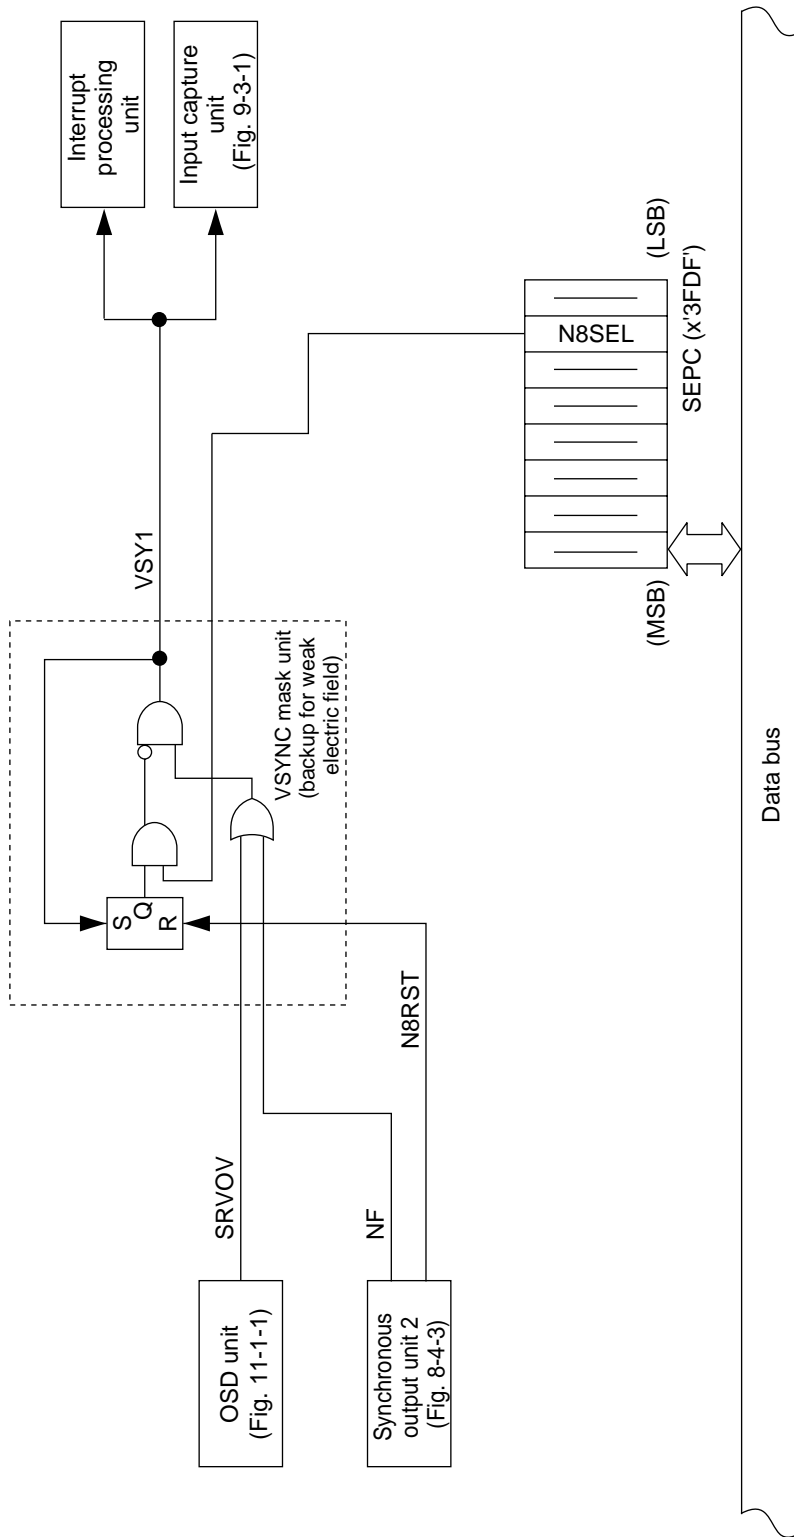

Figure 9-2-8 VSYNC Input Processing Unit
- (1) The VSYNC noise mask (N8) signal masks the actual capture signals (VSY1 signal in Fig. 9-2-8) of the VSYNC Input Capture Register (ICRVSYN: x'2E0C', x'2E0D', x'2E0E', R). When the VSYNC signal or NF signal causes the FRC count value to be captured by the ICRVSYN Register, masking begins and capture operation is disabled. The mask can be removed by setting the N8RST Flag (bp4) of the Synchronous Output Data Register (HOCRBUF1: x'3F7B', R/W) to '1'.
- (2) The VSYNC missing backup (NF) signal is a dummy signal used when the VSYNC signal is missing to capture the FRC count value in the ICRVSYN Register. The NF signal is generated when the value set in the Free-Running Counter Output Compare Register (FOCR0: x'2E16', x'2E17', R/W) becomes equal to the FRC count value.
**Example: Method of Realizing VSYNC Mask (N8) and VSYNC Escape Countermeasure Function (NF)**